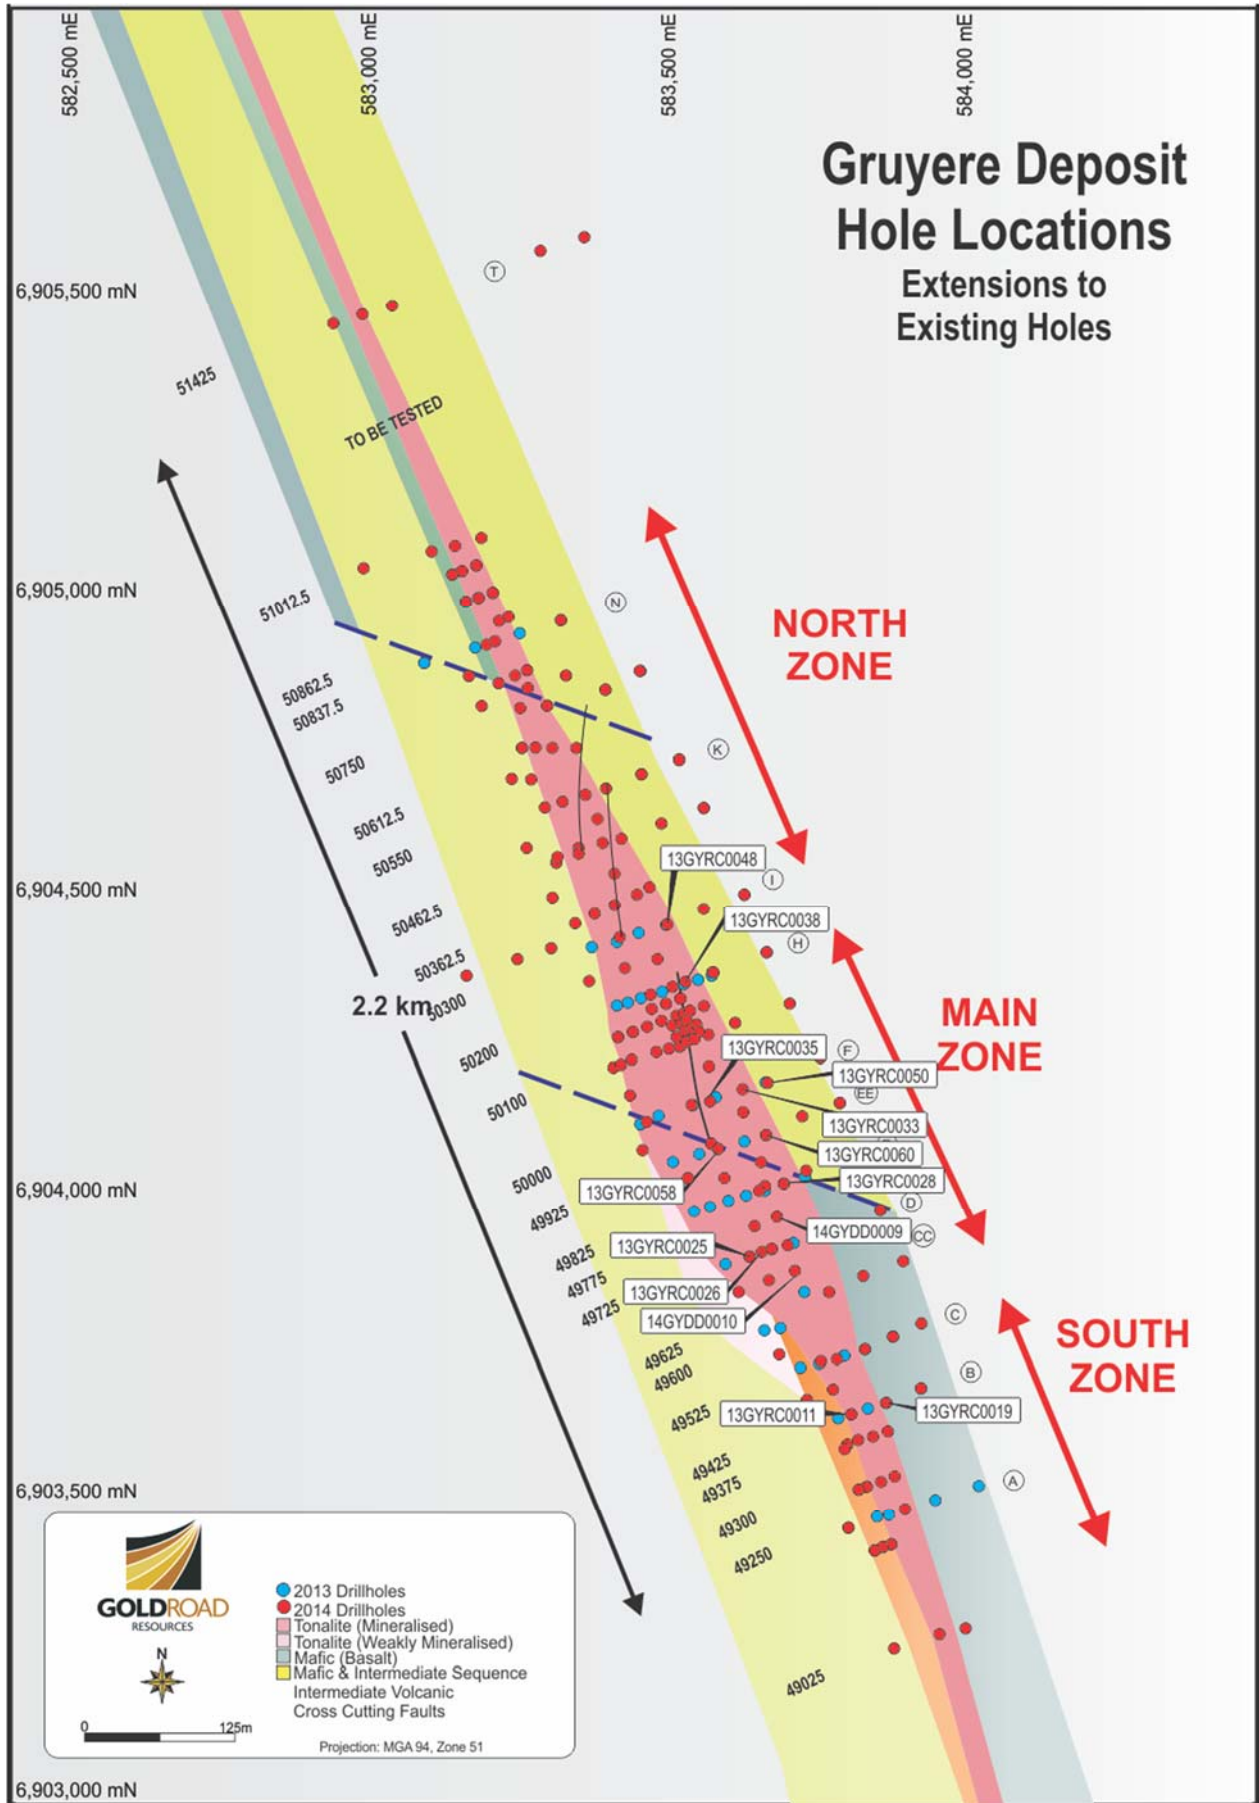

Figure 3: Gruyere plan projection illustrating interpreted geology and location of recent drilling on Extensions on previous holes
3. extensions drilled by re-entry of 13 previously drilled holes which had ended in mineralisation (**Extensions to Existing Drilling**) (Figure 3 – 4 RC holes for 276 metres, and 9 diamond extensions for 1,289 metres).